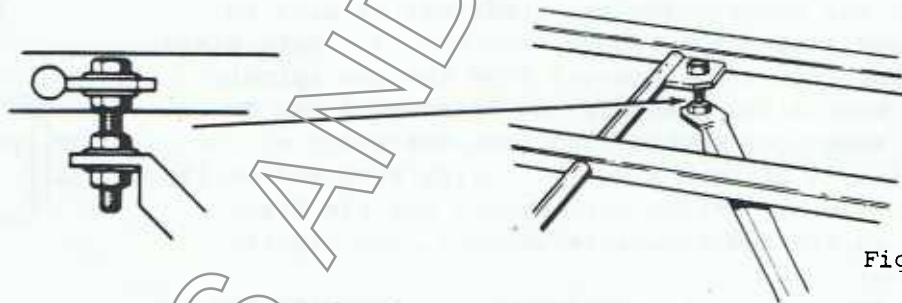

Fig. 1c
4. Secure support table SM1832 to support arms using nuts, bolts and washers supplied (M10 x 60 LG bolt 2 off, M10 nut 6 off and M10 washer 8 off, see Fig 1c).
5. To level the support table, place a straight edge across machine table and support table, slacken off 2 M8 bolts and adjust inboard end of support table in line with main table, retighten bolts. Adjust outboard end of support table level by means of the M10 x 60 LG bolts between support table and arms. (See Fig 1c). Slacken off lower nut and adjust the nut above the arm to jack the table up or down, when level relock the lower nut.